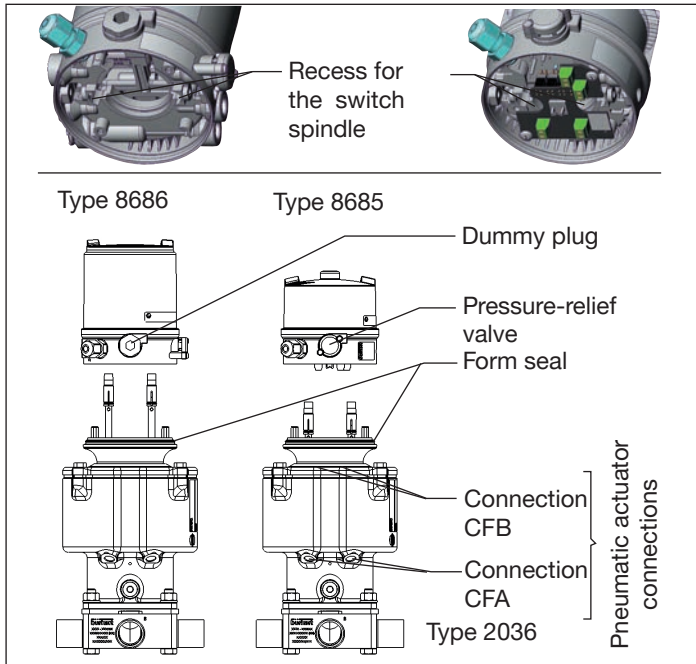

Fig. 12: Assembly of feedback head / control head
These operating instructions describe the installation of feedback head Type 8685 and control head Type 8686 to a valve Type 2036 with an actuator. The information also applies to Type 2036 valves with two actuators or Type 2034 valve clusters when using Robolux components. The information here also applies if the actuator, adapter kit and feedback/control head are in the position shown in “Fig. 12”
- ▶ For actuators with control function B (CFB), the lower end position must be approached before the feedback head / control head is placed on the adaptation body. To do this, pressurize the appropriate pilot air port of the actuator (“Fig. 12”).
- ▶ Make certain the feedback head / control head is correctly positioned relative to the actuator: The dummy plug or pressure-relief valve must be located on the side of the pneumatic connections of the actuator (see “Fig. 12”).